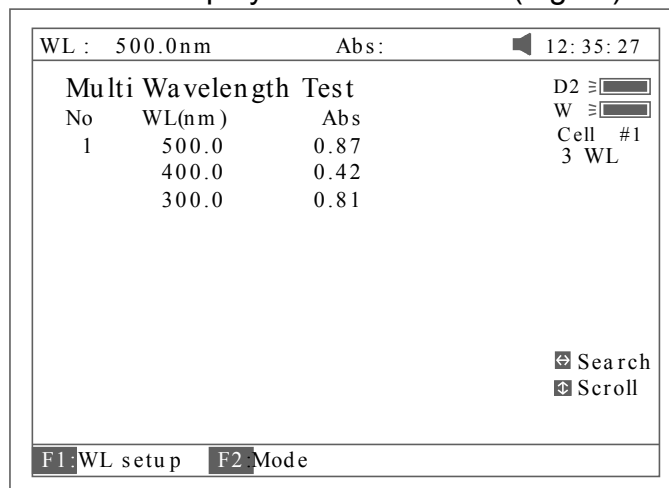

Fig 71
4. Pull the sample cuvette into the light path, press **[START]** to test. The test results will be displayed on the screen (Fig 71).